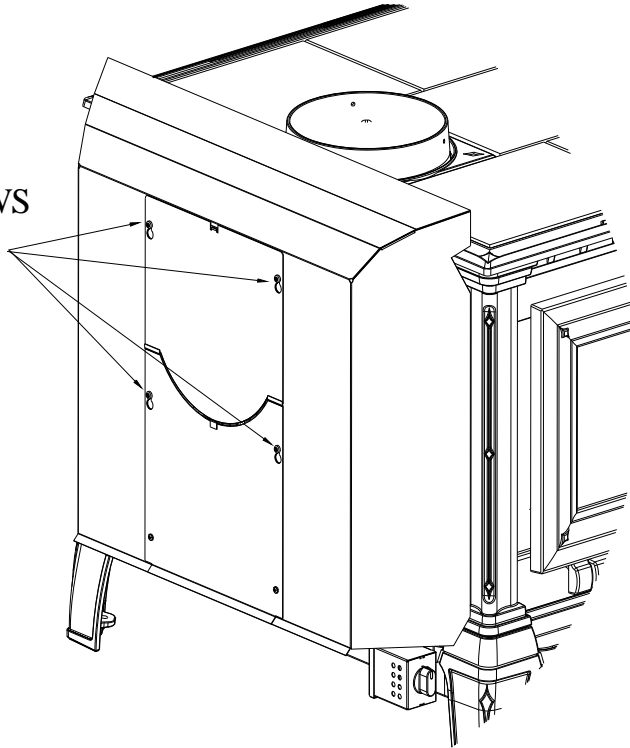

FIGURE 3
- 6) After the heat shield is mounted on the stove, ensure you tighten up all the outer screws (see *Figure 3*).